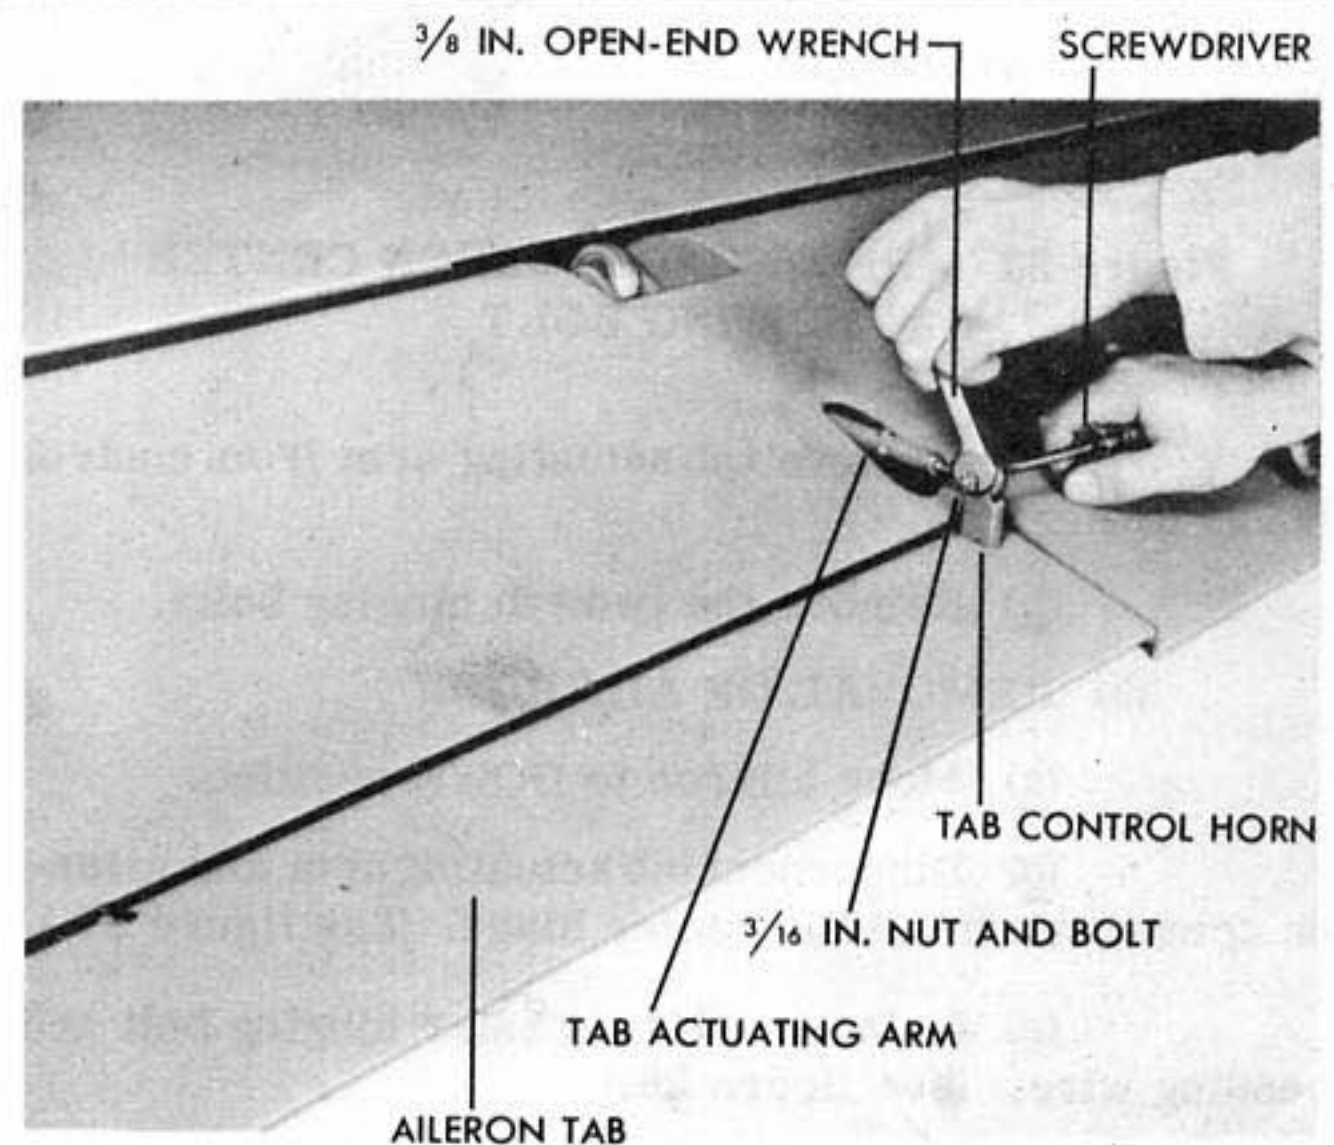

Figure 27 - DISCONNECTING AILERON TAB ACTUATING ARM
(2) REMOVAL OF AILERON TAB. (See figure 27.)
(b) Disconnect tab actuating arm and aileron actuating arm at the center hinge. (See figure 27.)